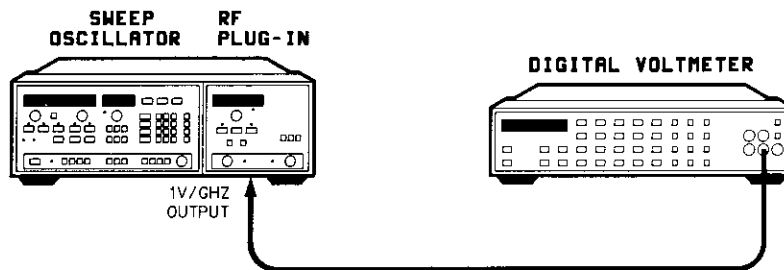

Figure 5-27. Frequency Reference 1 V/GHz Output Test Setup
1. Connect the equipment as shown in Figure 5-27 with the DVM connected to the rear panel 1V/GHz frequency reference connector, J4. Allow the equipment to warm up for 1 hour.